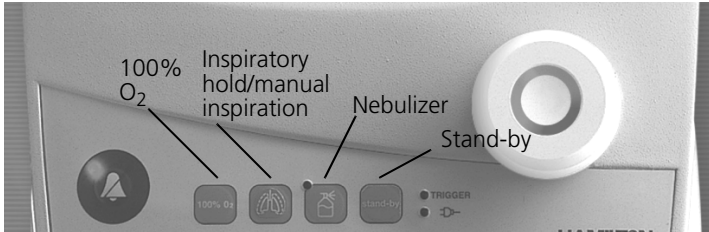

Figure 7-1. Special function keys
1. Press the 100% O₂ key (Figure 7-1) for 1 s.
This function (Figure 7-1) lets you perform an inspiratory hold maneuver, deliver a manual breath, or start breath delivery during a disconnection.
The nebulizer key (Figure 7-1) enables the RAPHAEL's pneumatic nebulization function for 30 min. While nebulization is active, the indicator on the key is lit. After 30 min, nebulization automatically stops. To terminate nebulization before 30 min elapse, press the key again.